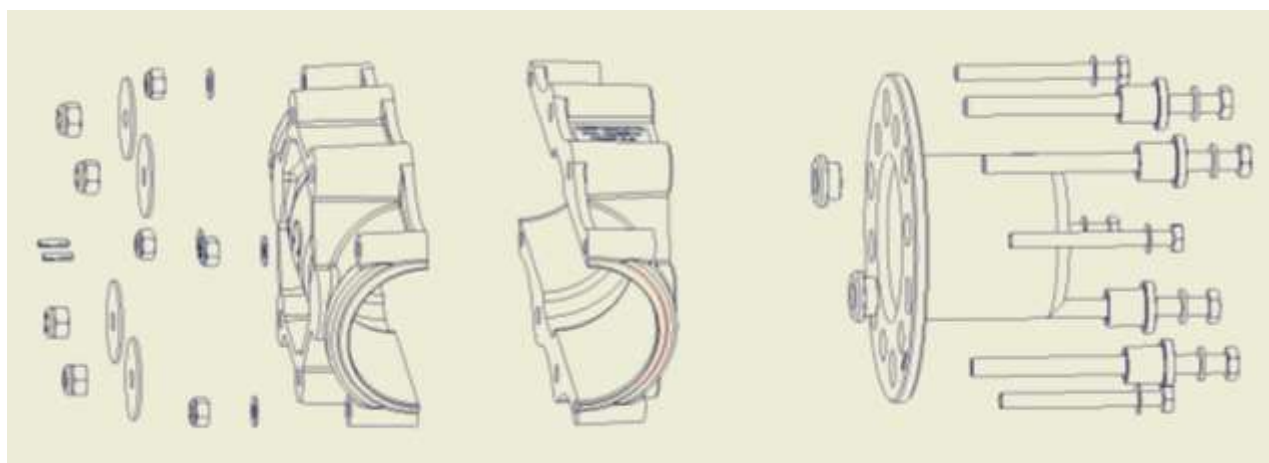

Figure 2 – Propeller Hub Assembly (Spinner and blades not shown)
2. Ensure that Propeller drive bushes – 6 off, are in place in the Crankshaft Propeller Flange (note that two are special, short parts and face “backwards” compared to the others – see Figure 2). Sand both sides of each spinner mounting plate flat in the flange/propeller mounting area. Fit the rear spinner backing plate to the flange.